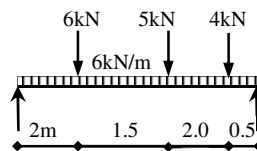

Fig. 1
1. A beam is loaded as shown in figure 1.